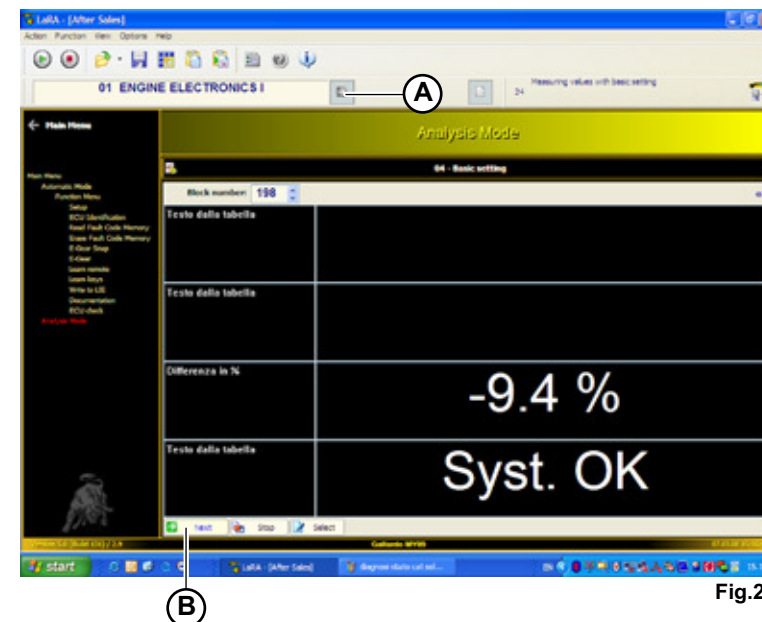

Fig.25
- diagnosis of the tank seal (LDP) (only for USA) / Secondary air system (SL) is performed.
- Select routine 198 inside the block number (A-Fig.25).
- Start the connection () and press the start push-button (B-Fig.25).